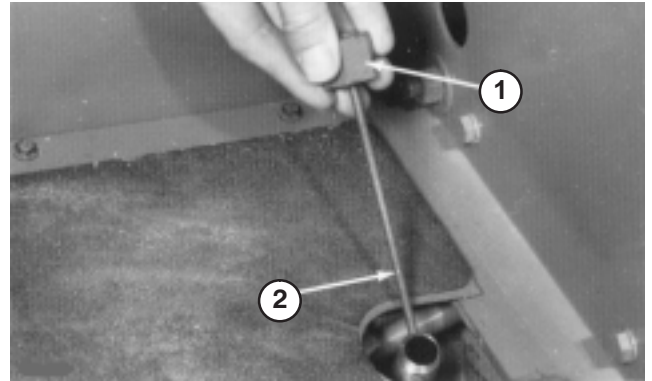

Figure 15
2. Unscrew dipstick cap (Fig. 15) from the filler neck and wipe it with a clean rag. Screw dipstick cap finger tight onto filler neck. Unscrew the dipstick and check level of fluid. If level is not within 1/2 in. (13 mm) from the groove in the dipstick (Fig. 15), add enough fluid to raise level to groove mark. **Do not overfill** by more than 1/2 in. (13 mm) above groove.